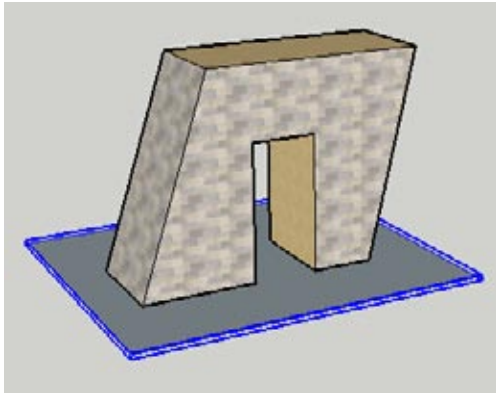

Figure 6-34
4. Move the grouped rectangle so that it encompasses the bottom of the tower (Figure 6-34).